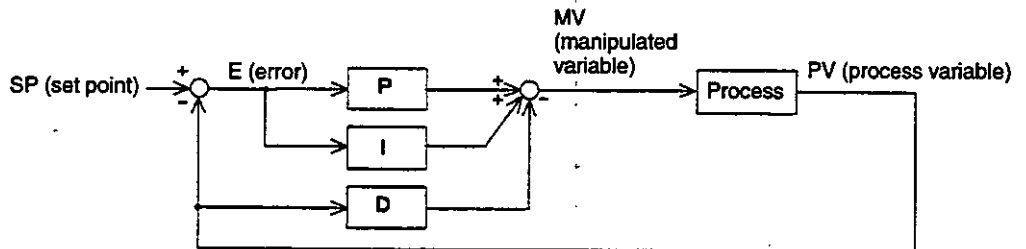

Figure 2.6 Process Variable Differentiation
- 2) GL120 and GL130 use process variable differentiation, in which the derivative effect works not on process error but on the process variable. The equation for calculating process variable differentiation is shown at (b) below. The relationships between the elements in the calculations are shown in *Figure 2.6*.